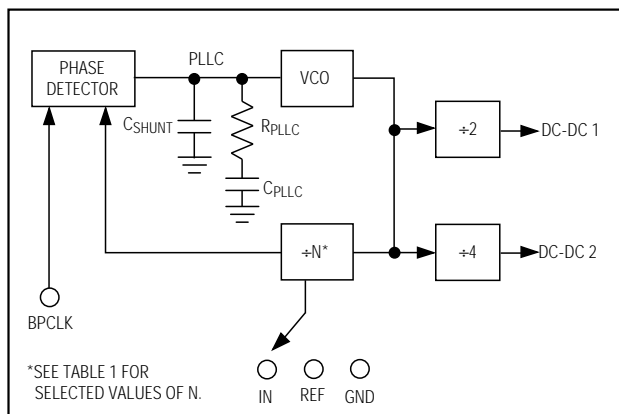

Figure 2. Internal PLL Operation within the MAX1664
*See Figure 2
The MAX1664 contains an on-board PLL to synchronize the PWM and PFM converter clocks to the backplane clock (Figure 2). This will minimize noise and interference. The PLL is a frequency-multiplying type, generating a nominal 1MHz clock signal for DC-DC 1 and a nominal 500kHz clock for DC-DC 2. Three input frequency ranges, spanning 20kHz to 72kHz, permit synchronization over a broad range of backplane clock input frequencies while maintaining optimal conversion frequencies (Table 1).